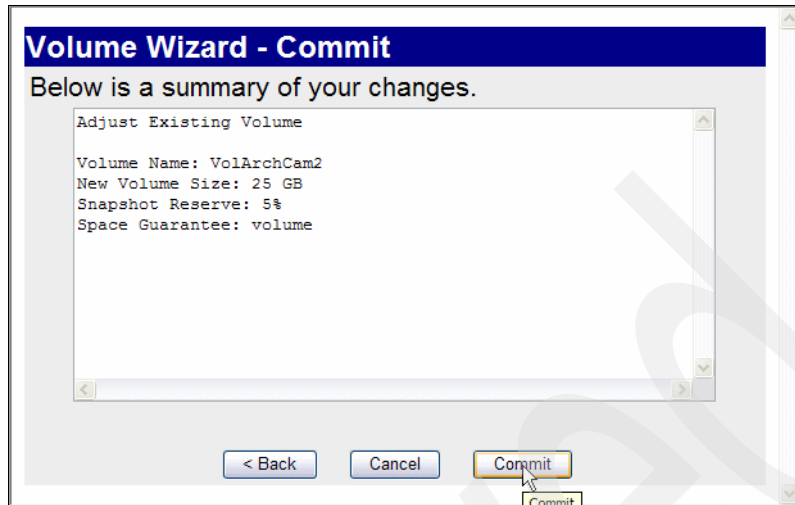

Figure 9-14 Summary of the changes
6. As shown in Figure 9-14 on page 303, a window is displayed that summarizes the configuration. Click **Commit**.